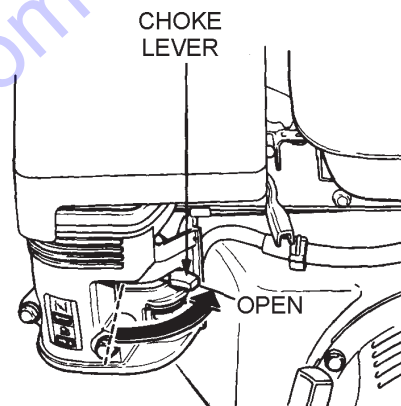

Figure 10. Engine Choke Lever (Open)
4. Place the **choke lever** (Figure 10) in the "OPEN" position if starting a **warm** engine or the **temperature is warm**.